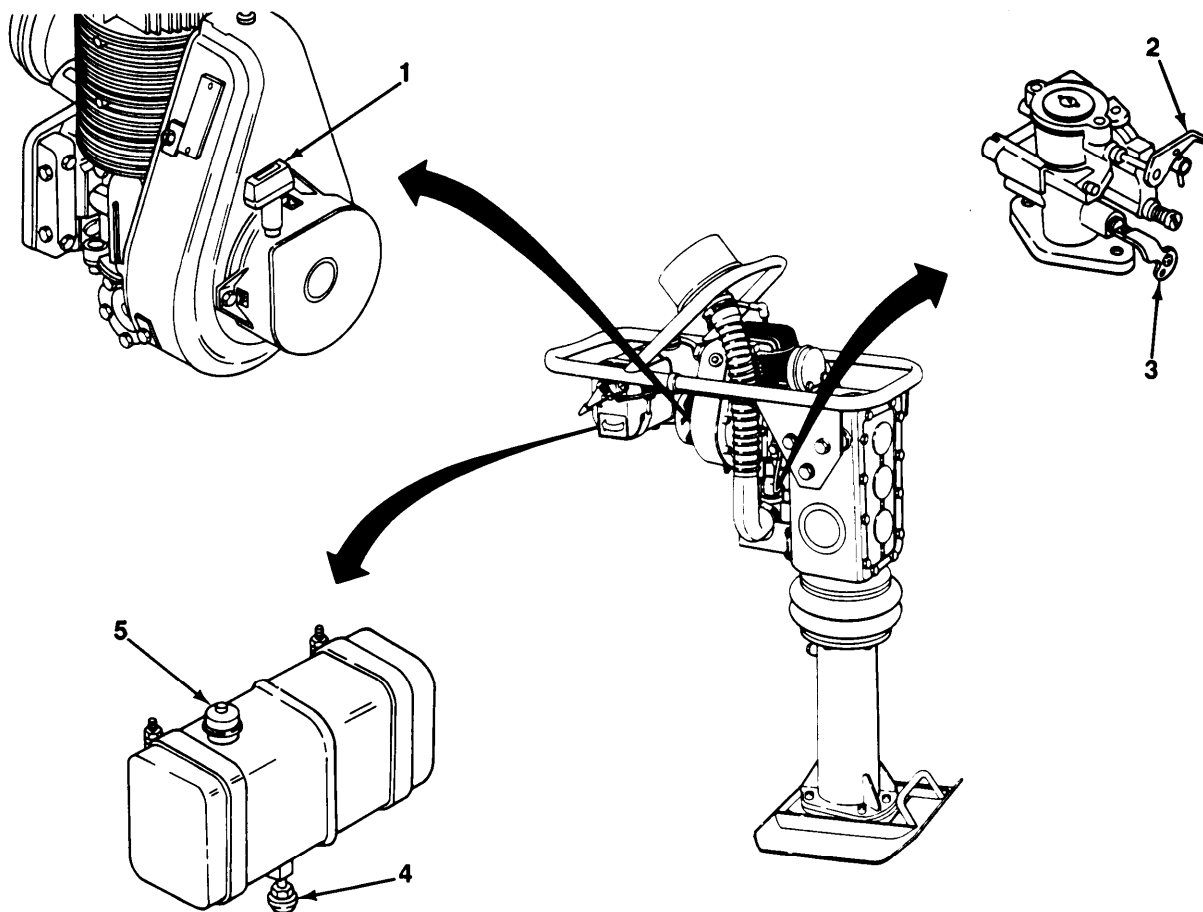

Figure 2-1. Starting Tamper.
- Refer to Figure 2-1, *Starting Tamper*, for steps a through h.
- a. Open fuel valve (4).
- b. Open fuel tank cap vent (5).
- c. Raise throttle lever (3) approximately halfway.